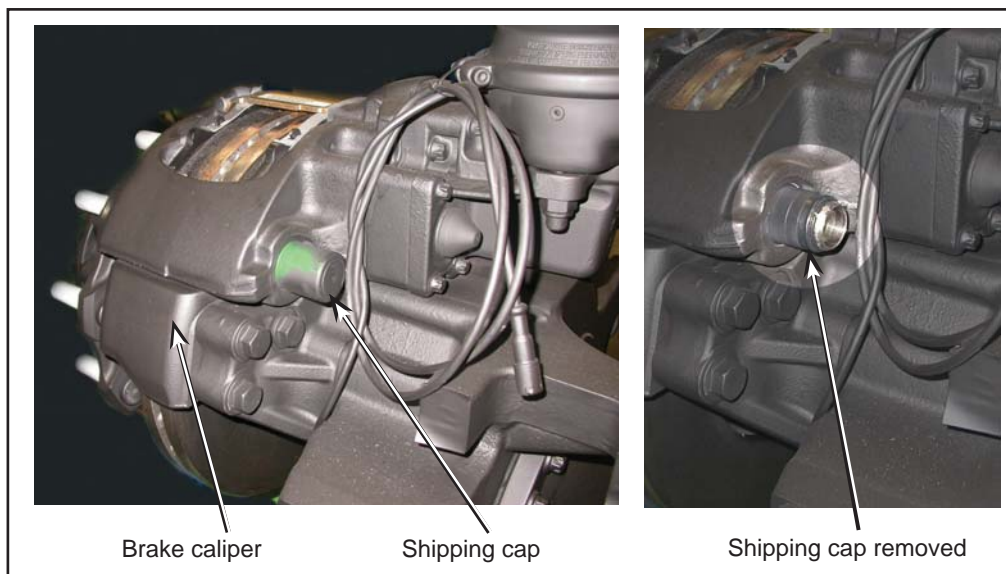

Figure 1 - Shipping Cap Location
- 1.3. Locate the shipping caps on each calipers. See Figure 1. The caps can be identified by their green color, but they may have been painted black.